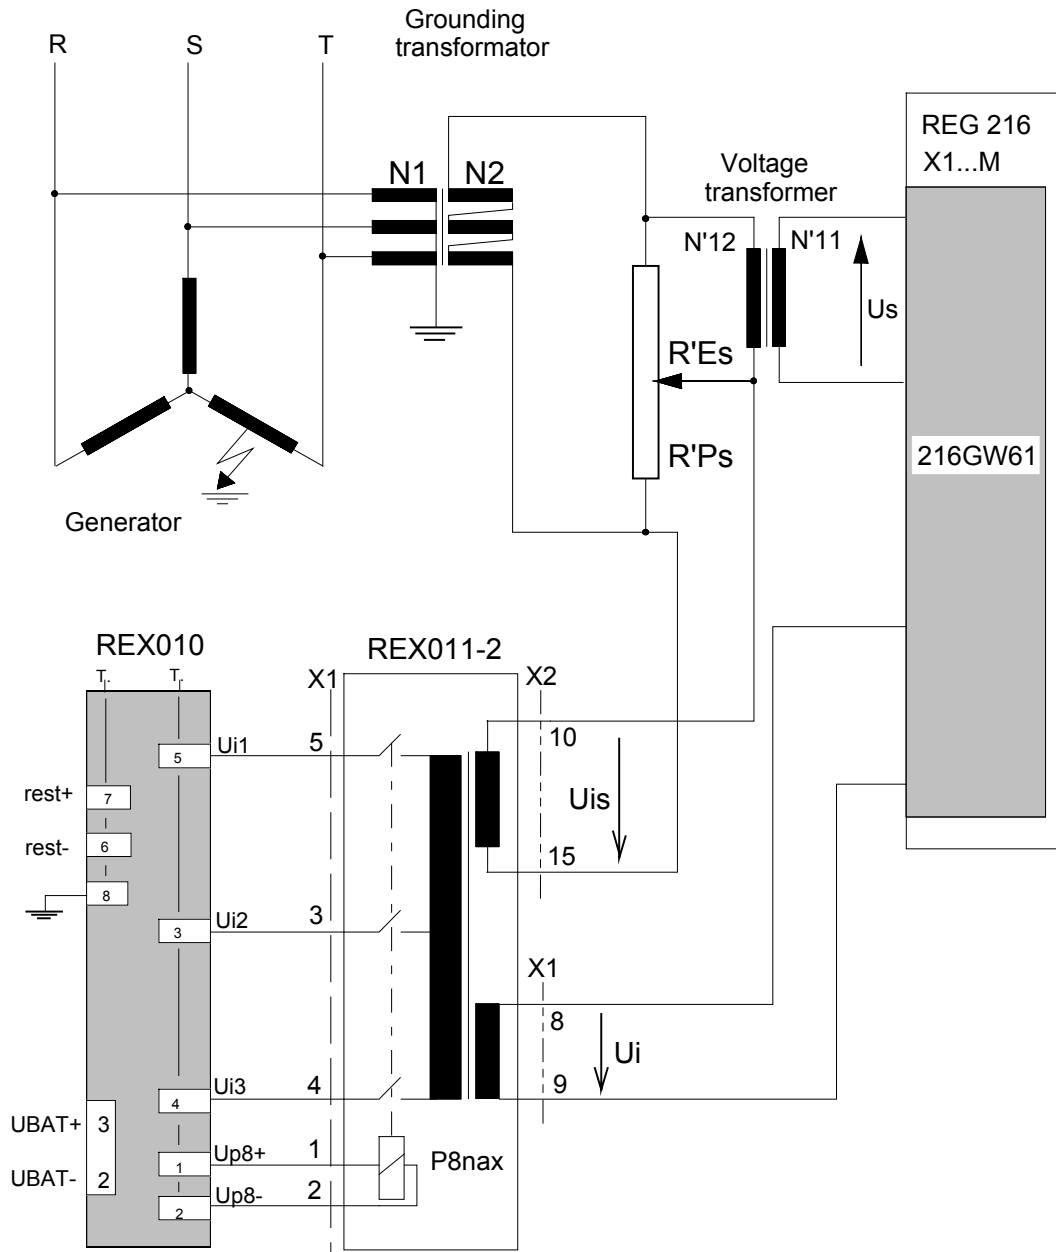

Fig. 2.24 Wiring diagram for REX 011-2 for secondary injection of the stator at the terminals (see also Fig. 2.29)
- Fig. 2.24 Wiring diagram for REX 011-2 for secondary injection of the stator at the terminals